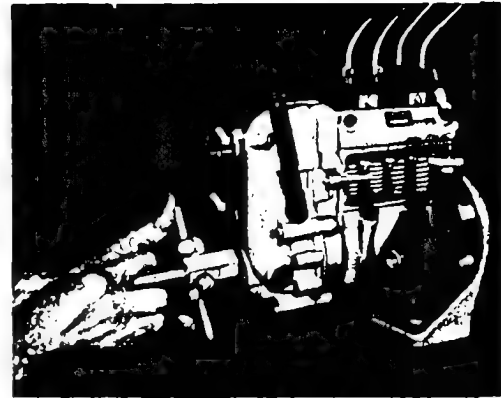

Figure 2 Releasing the spring capsule with spanner EFEP 202.
- unscrew and remove the cover and screw out the spring capsule of the torque control spring or idling pressure spring using spanner EFEP 202 (figure 2).